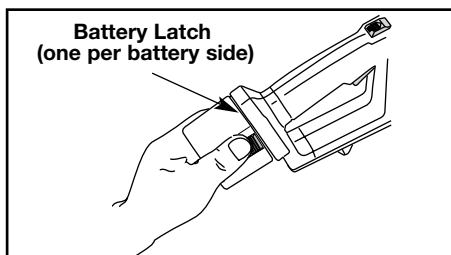

Fig. 7
2. Remove battery from your grass shears (Fig. 7).